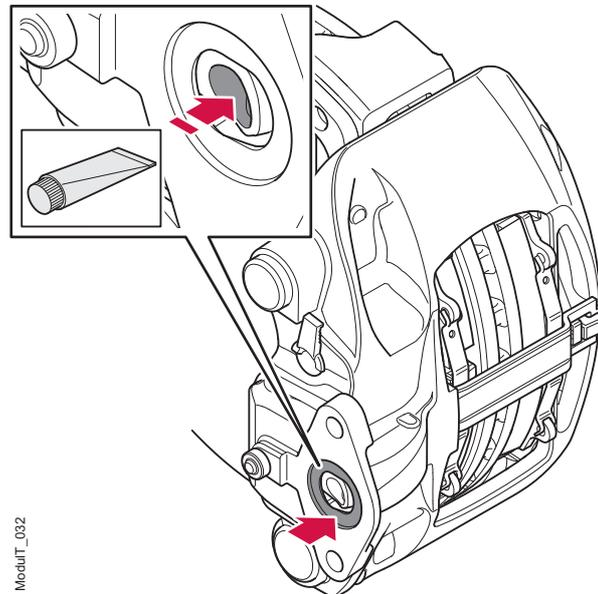

Figure 38. Pre-brake chamber mounting activity
3. Check that the surface of the calliper that mates with the brake chamber is free from dirt, moisture and corrosion. Do the same check on the brake chambers mating face (A) and seal. See figure 38.